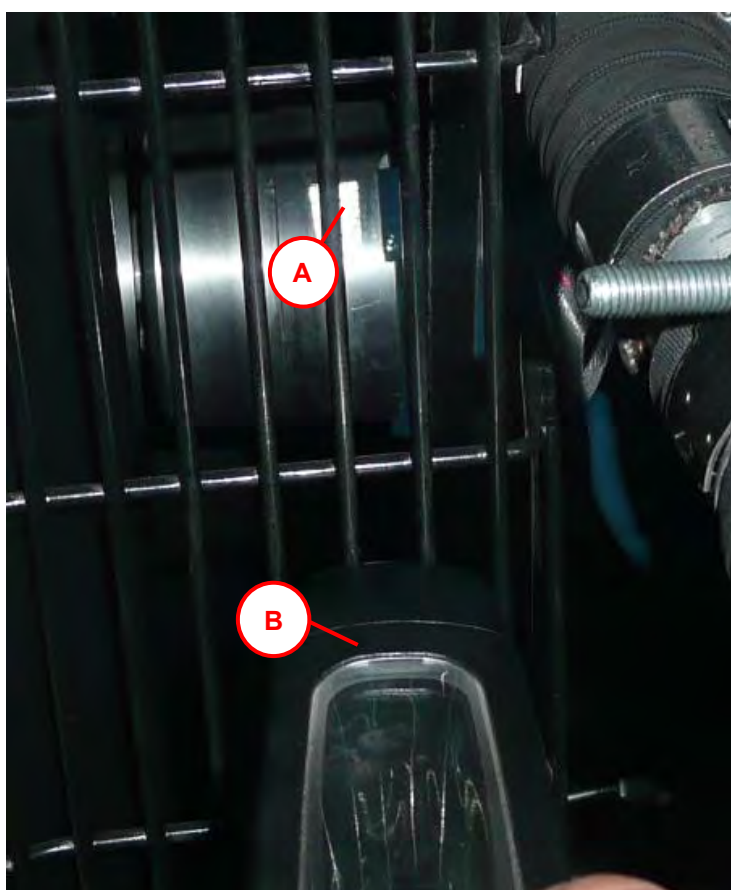

Figure 11.1-2 Reflective mark on the harmonic balancer
- 8) Measure with an optical tachometer (Letter B in Figure 11.1-2) the RPM of the harmonic balancer, focusing the optical beam on the reflective indicator (Letter A in Figure 11.1-2)